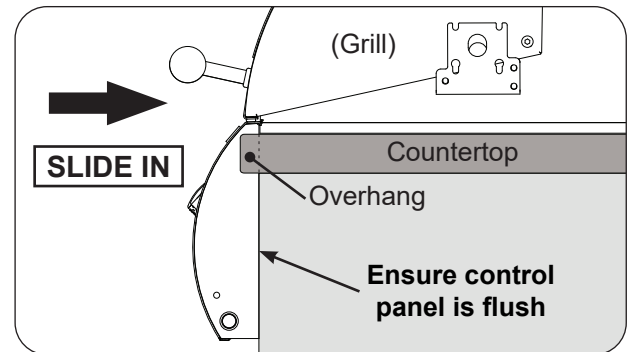

Fig. 22-2 Slide in unit (ensure flush)
1. Carefully slide the unit into the cutout in the enclosure (see Fig. 22-2).